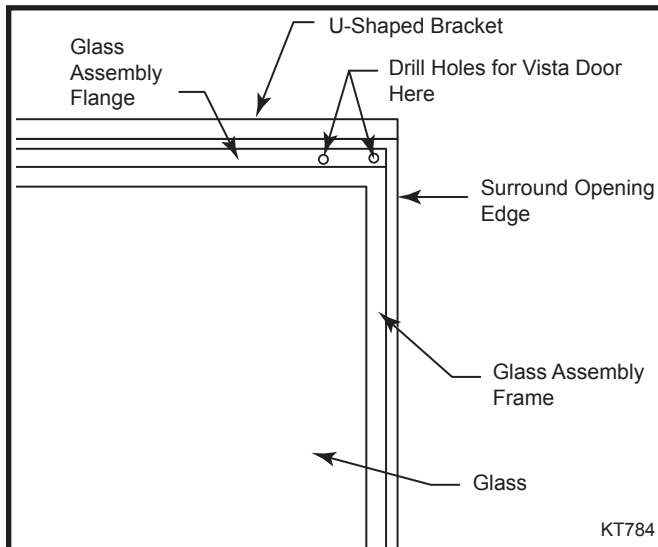
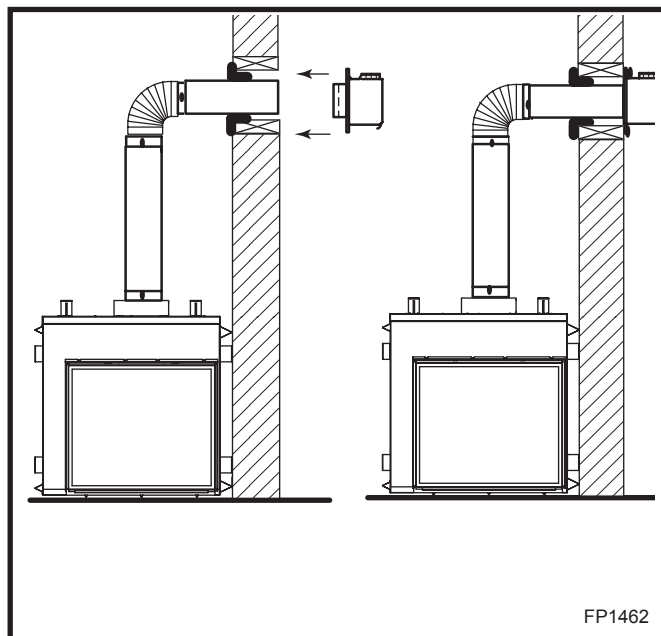

Fig. 28 Vista door top hole locations.
Fig. 33 Restrictor plate use with horizontal offset.
Align the short brackets so the edge of the bracket is exactly aligned with the side edge of the fireplace window's top flange, as shown in Figure 28. Mark the location of the holes using a pencil mark through the bracket holes. Drill 1/8" holes at each of the four (4) locations. Mount brackets using four (4) sheet metal screws.
7. Slide the Vista door assembly over the fireplace window frame aligning the four (4) holes with the four (4) brackets.
8. Using the machine screws, attach the Vista door to the four (4) brackets. Do not overtighten.
For vertical venting configurations that include a minimum vertical rise of 12' (3.7 m) and a maximum horizontal offset of 10' (3 m) the 4½" flue restrictor plate supplied with this unit should be used on LP unit only. (Fig. 33) Refer to Figure 28 for flue restrictor plate installation.